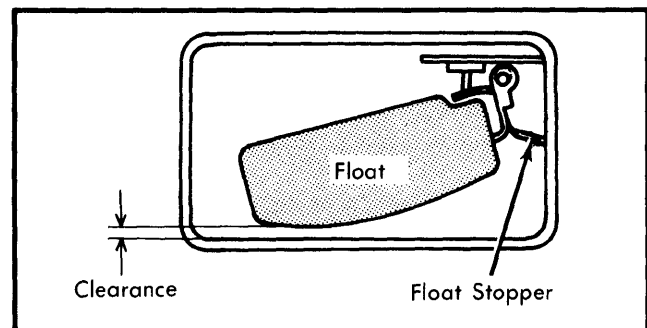

Fig. 3 Checking Float Drop Adjustment
1) Turn carburetor to its normal position (not inverted). Allow float to lower by its own weight. Measure clearance between bottom of bowl and float. See Fig. 3. Clearance should be .039" (1 mm). If not, bend float stopper until proper clearance is obtained.